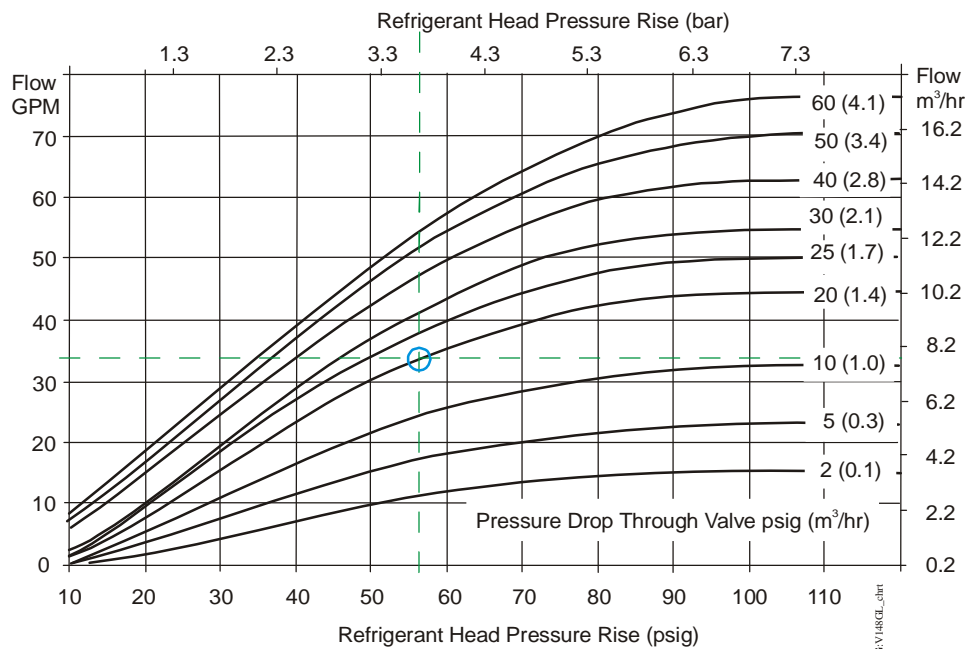

Figure 9: High Refrigerant Pressure 1 in. V148GL1 Valve
4. Using the following data and the flowcharts, the only valve that comes close to meeting all the criteria (without being oversized) is the V148GL1 valve (see Figure 9):